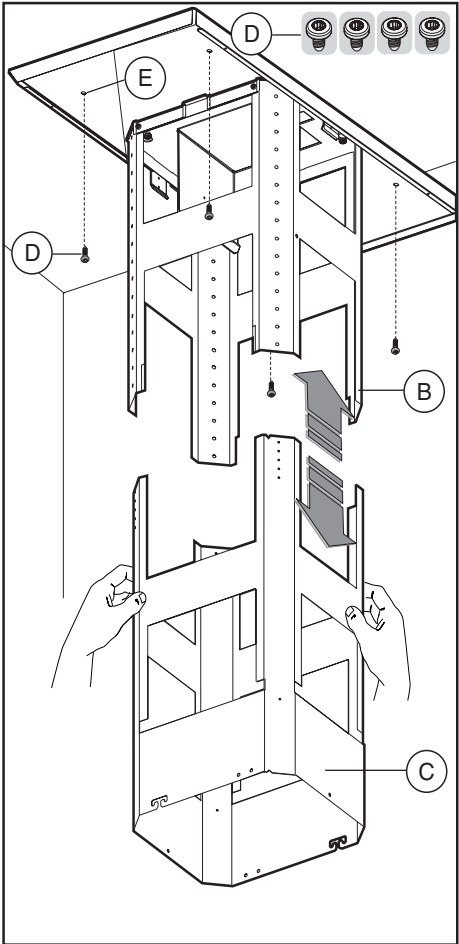

Fig.7
We recommend the duct fixing bracket **C** is securely fixed in place by tightening another 4 screws **D** into the safety holes (Fig. 7).
- Take the lower part of the telescopic structure **C** and insert it into the upper structure **B** (fig.7).